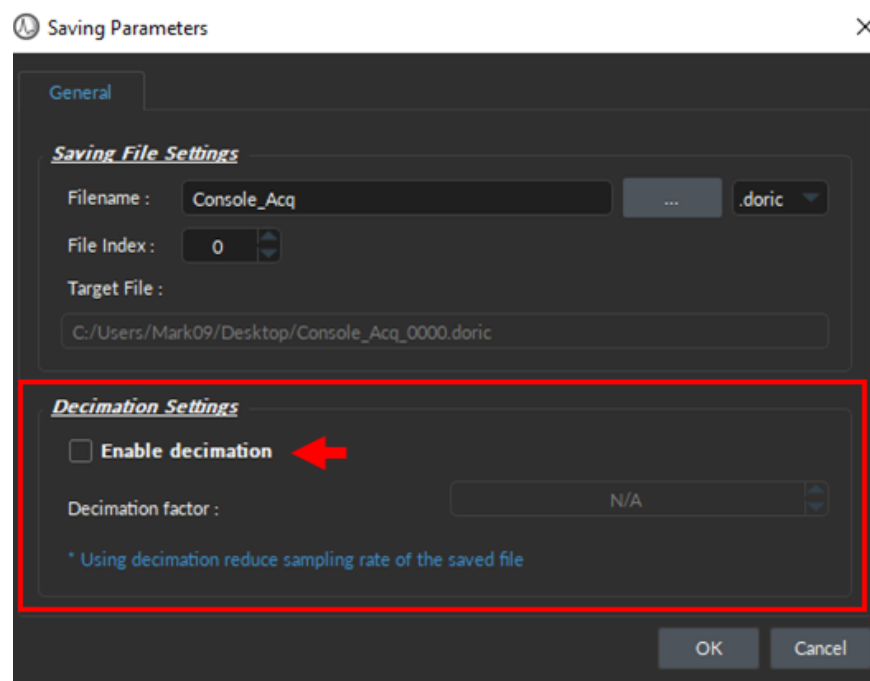

Figure 5.36: Enable/Disable the decimation factor that reduces the Sampling Rate of the saved files
- **Note 1:** The saved file **effective sampling rate** is set to 5x the lowpass filter frequency, using a decimation factor (which can be disabled in Saving Options, see Fig. 5.36).